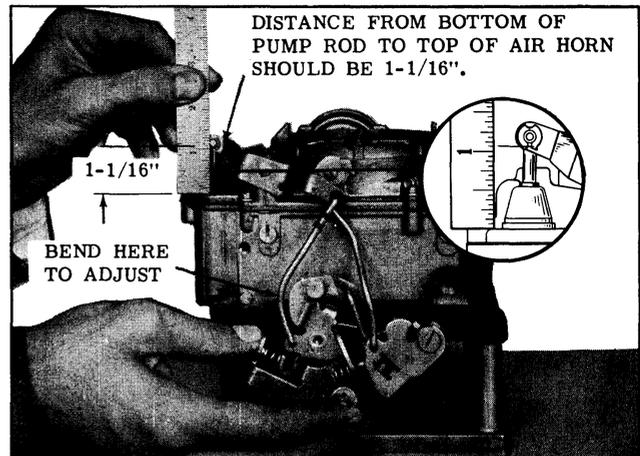

Fig. 8-107 Pump Rod Adjustment
2. Hold the throttle lever in this position and measure the distance from the top of air horn casting to the bottom edge of pump plunger shaft. (See Fig. 8-107)
3. Bend the pump rod to obtain the correct dimensions with Tool BT-18. (See Fig. 8-107)